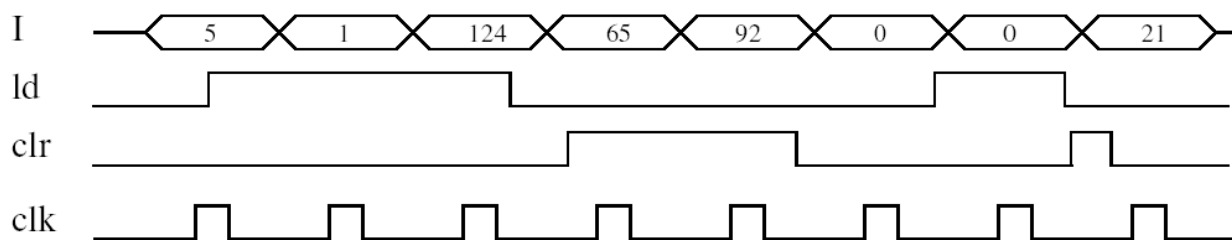

Figure 4.96
- 4.2 Trace the behavior of an 8-bit parallel-load register with 8-bit input I , 8-bit output Q , load control input ld , and synchronous clear input clr by completing the timing diagram in Figure 4.96.